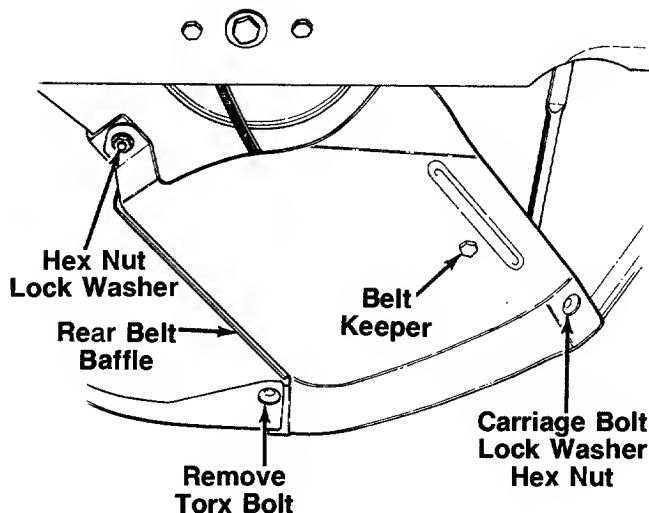

FIGURE 26.
4. Remove the rear belt baffle by removing the lock washer and hex nut shown in figure 26. Then remove one Torx bolt, using a #27 Torx driver. A 9/64" Allen wrench may also be used. Then remove one carriage bolt, lock washer and nut as shown.
NOTE: When reassembling the rear belt baffle, make certain the belt keeper is outside of the belt, and the edge of the rear belt baffle is between the rear chute baffle and the rear panel as shown in figure 26. Make certain to tighten all nuts and bolts securely. If plastic was placed under the gas cap, be certain to remove it.